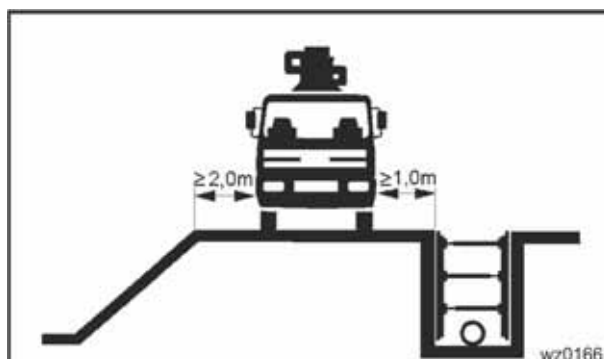

Fig. 56 Distances from excavation pits
- Maintain the prescribed safety distance between the machine and excavation pits (Fig. 56 Distances from excavation pits).